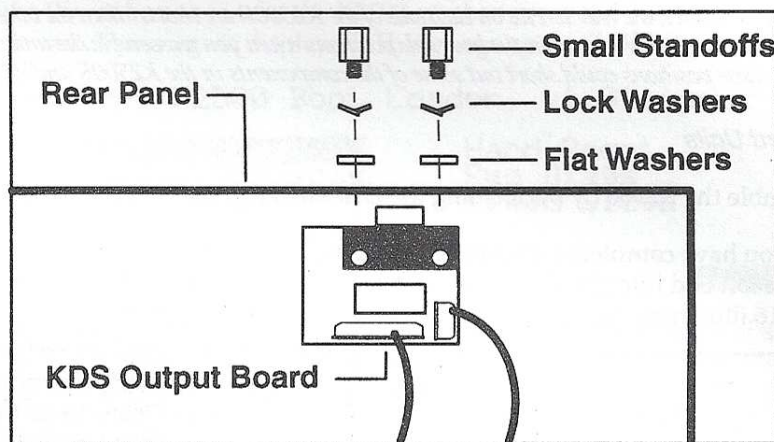

Figure 15. KDS Output Board Installation-K2500R.
20. If this is a rack unit, see Figure 15. Position the KDS Output Board through the rear panel KDS Output hole; the board will only fit through this hole one way. Then use the following items to secure the board to the rear panel: